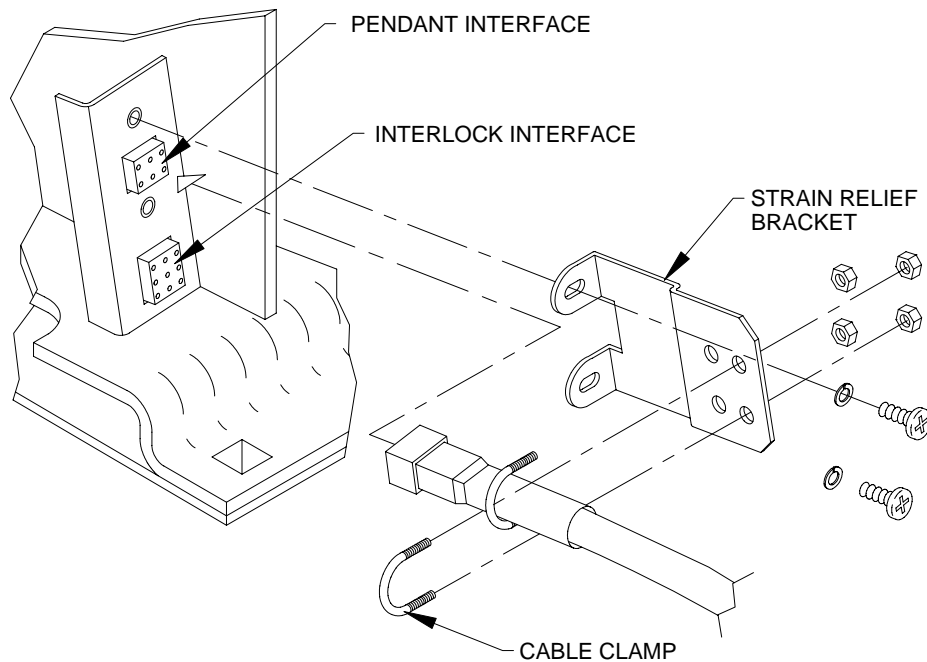

FIGURE 2-10: STRAIN RELIEF KIT
- a. Refer to **Figure 2-10**. Connect hand-held control pendant to six-pin connector at left side of baseplate and secure cable with supplied bracket and cable clamps.